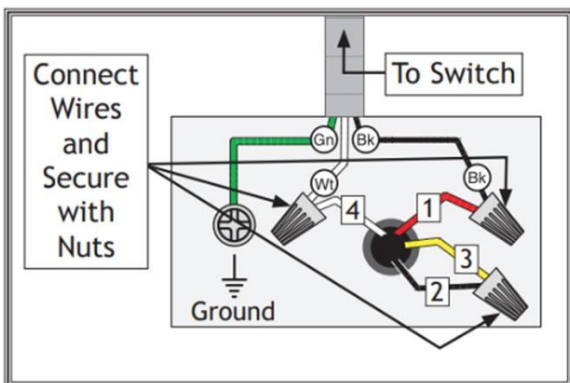

Figure 5: motor rewired to 240V.
- 4 - Use the wire nuts to connect the wire back as in dedicated in figure 5. Twist the wire nuts onto their respective wires and wrap them with electrical tape so they will not come loose.